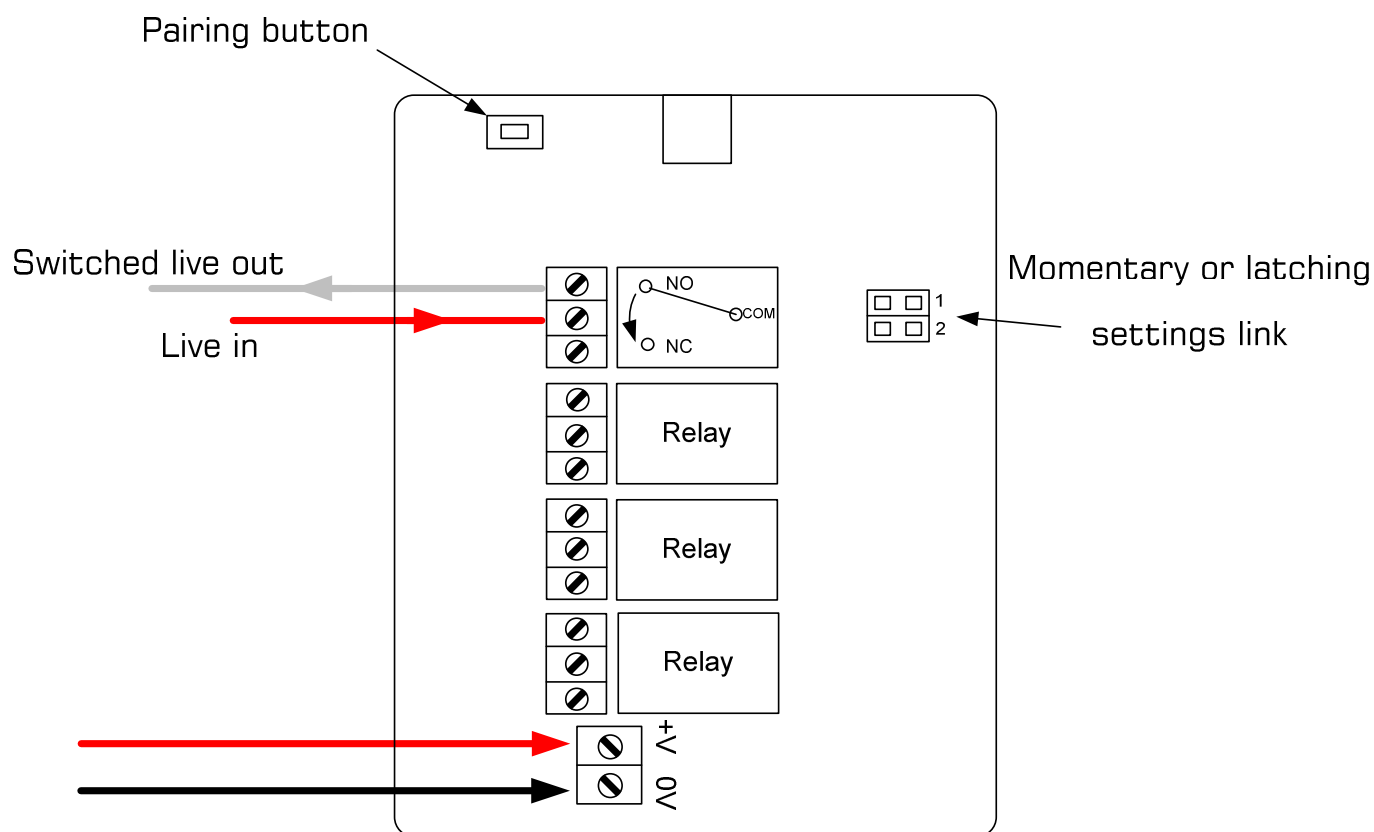

Fig 1.1
2. Wire the power as shown on Fig 1.1
See Fig 1.1 for location of jumper pins.